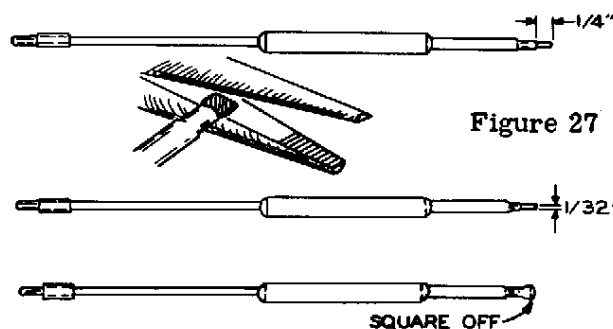

Figure 27
- ( ) Referring to Figure 27, cut off 1/4" from one end of the alignment tool.
- ( ) At the same end of this alignment tool, flatten the tip with pliers until it is approximately 1/32" thick. See Figure 27. Be sure the flatted end is squared off as shown.